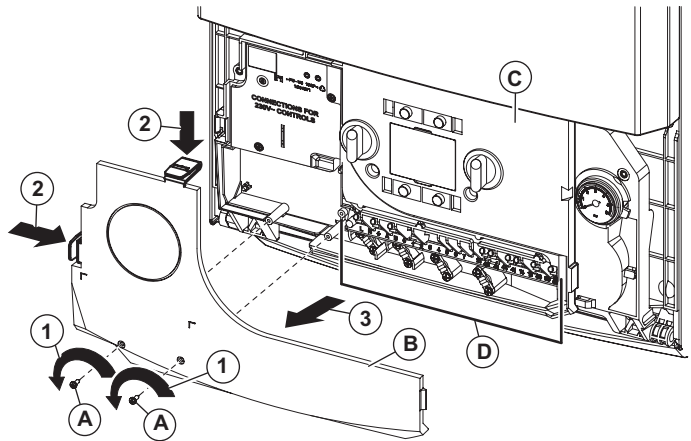

Fig. 4.7
4.9 CONNECT THE MAINS SUPPLY - Figs. 4.7 and 4.8